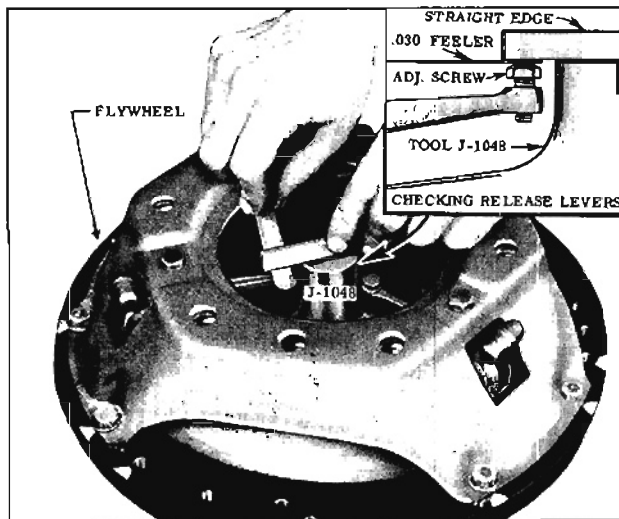

Fig. 7-54 Checking Release Levers
4. Lay a short straight edge across the center boss of the gauge as a guide for positioning release levers. (Fig. 7-54)